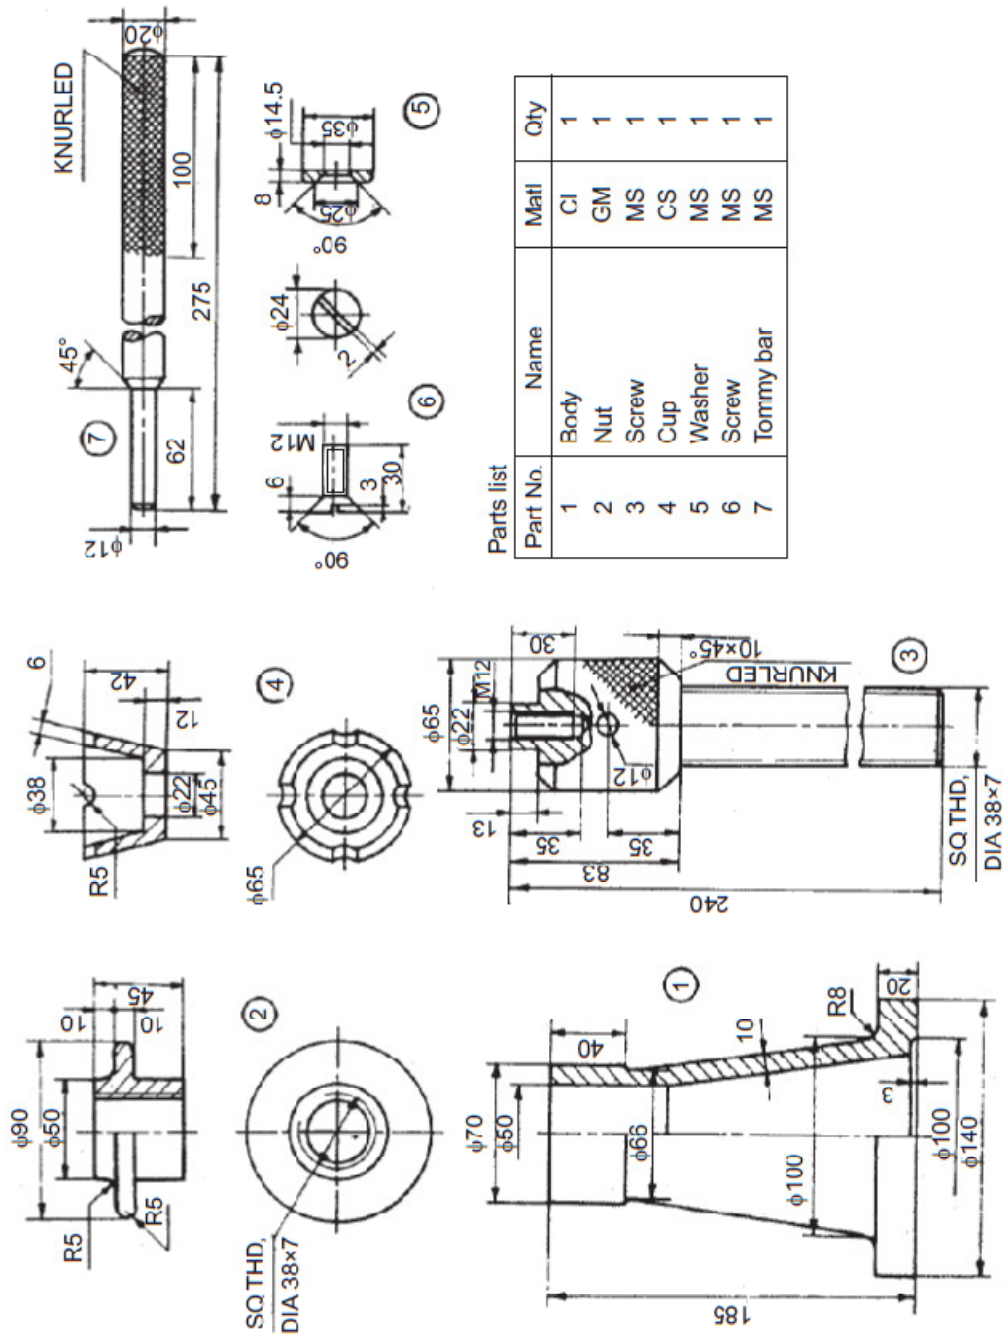

Fig 1 Screw jack
2. a) Assemble all parts of the screw jack, shown in Fig. 1 and draw the following views: (50M)